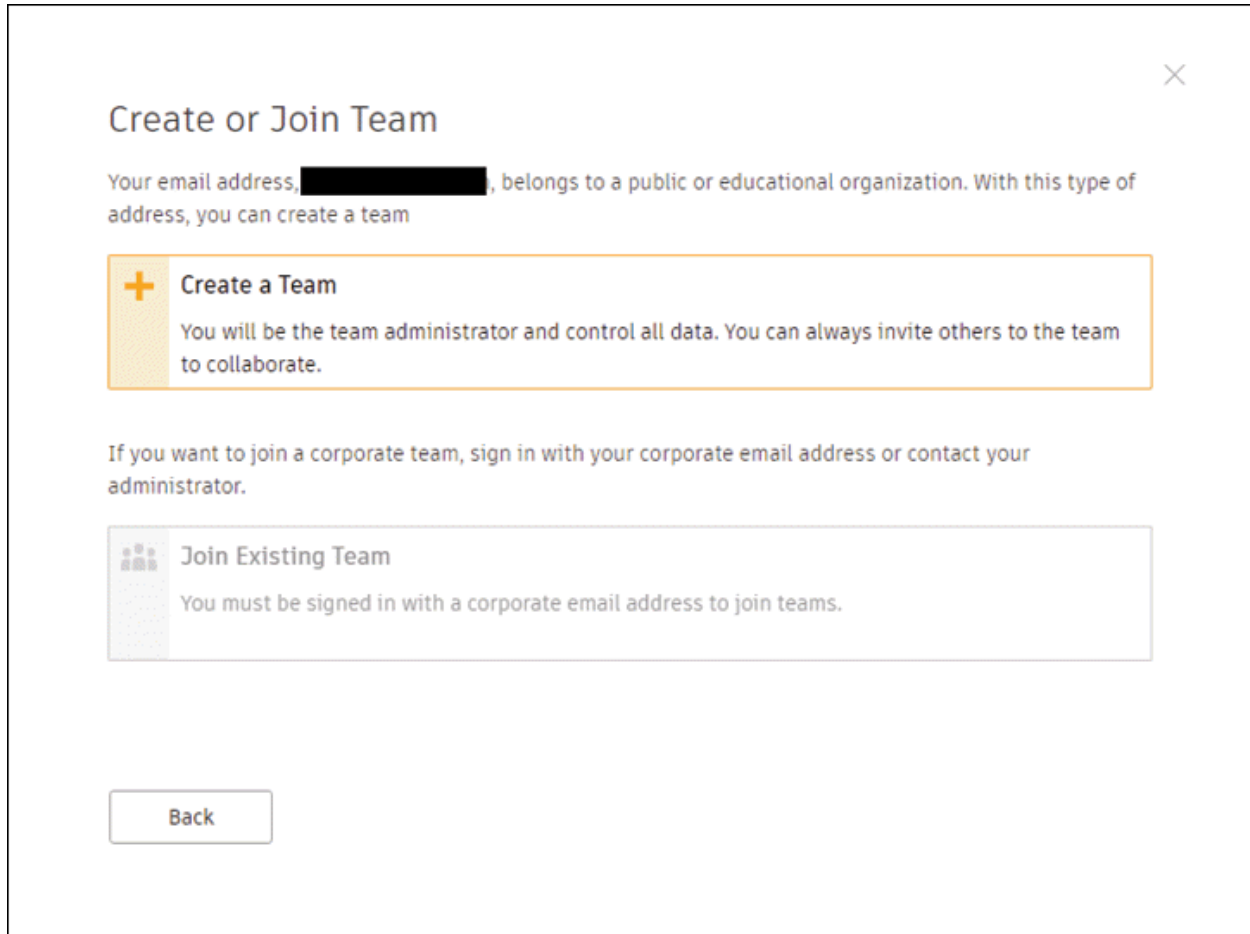

Figure-106. Create a team or join existing team options
- Click on the **Next** button from the information box. The options to create or join teams will be displayed in a dialog box; refer to Figure-106.